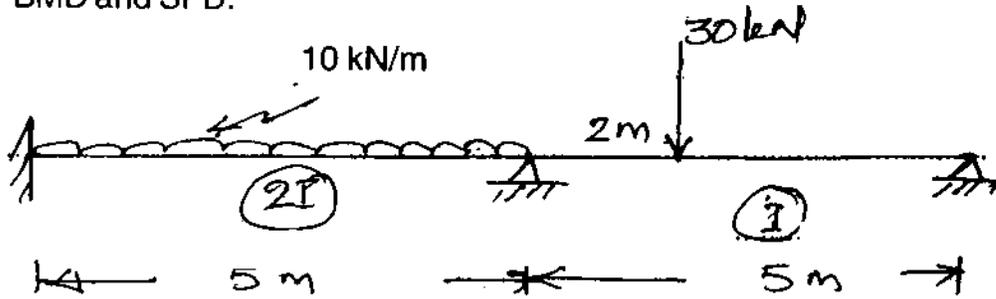

Fig. 3
11. Analyse the continuous beam shown in Fig. 3 by stiffness method and draw BMD and SFD. 20